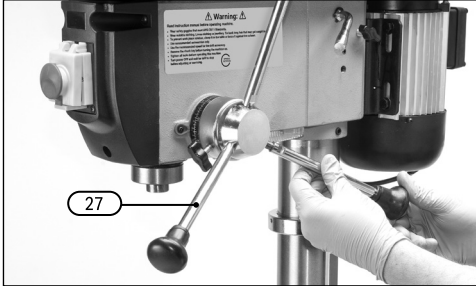

Fig. 6
6.4 Fitting Plunge Handles (Fig.6)